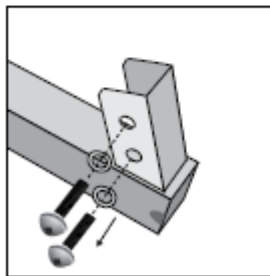

Figure 1
1. Remove the included washers and bolts from the frames, using the included Allen wrench. (See Figure 1)